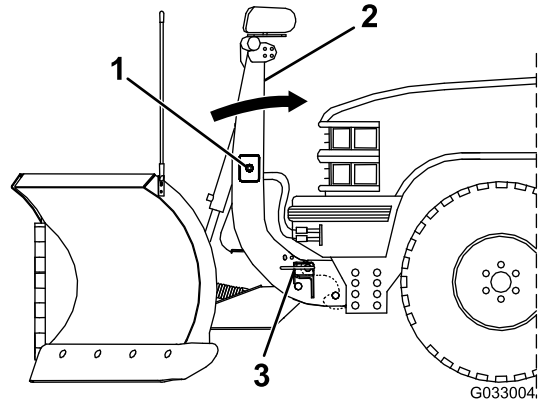

Figure 29
5. Push the SmartHitch2 switch on the side of the coupler tower upward and raise the tower until the coupler spring pins snap in (Figure 29).